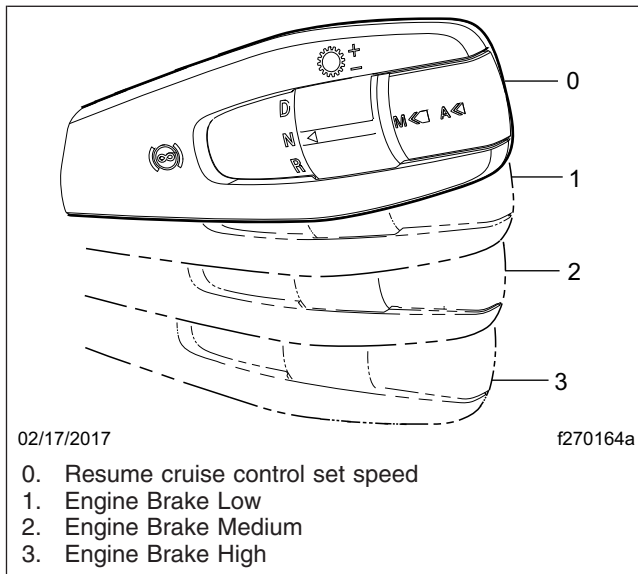

Fig. 7.3, Descent Control Mode Engine Brake Positions
3. Set the engine brake to any of the three 'on' positions as shown in Fig. 7.3.
While in cruise control, activate deceleration mode turning on the engine brake using the right-hand stalk switch as shown in **Fig. 7.3**. The vehicle decelerates at a constant rate until the vehicle comes to a stop, unless the accelerator pedal is applied to override the deceleration, or the right-hand stalk switch is moved to 'off' position.